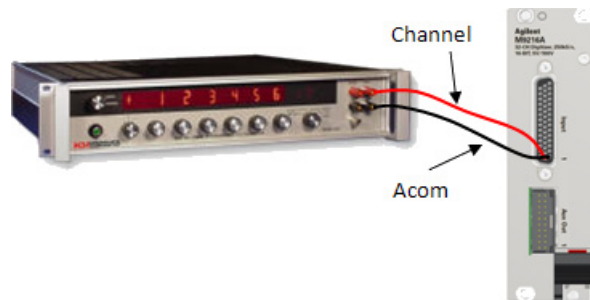

Figure 3-4 Connecting the DC calibrator to the M9216A input port
STEP 3 — Calibrator Turn off the DC calibrator output or set the DC calibrator voltage to zero. Connect the calibrator output to the channel under test as shown in Figure 3-4. Remember to connect the correct return for the port under test as the M9216A has four isolated common return. Use a connector saver or terminal block to prevent damaging the M9216A connector.
- 3 Connect the DC calibrator output to the input as shown in figure 3-4. When manually connecting the cables, remember to switch the DC calibrator output off or set the voltage to zero. Select the input port to the channel under calibration. Remember to always *Update Hardware* to ensure that the hardware is synchronized with the driver and that the relays are switched into position.